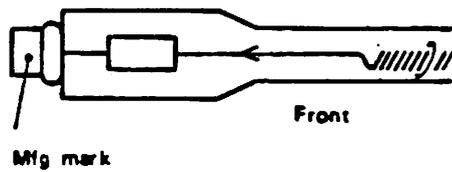

Figure 2-21
1. Holding the bulb by the end with the manufacturer's name (see Figure 2-21), insert it into the roller tube. Make sure that the leading end is seated on the small copper electrode at the far end of the assembly.